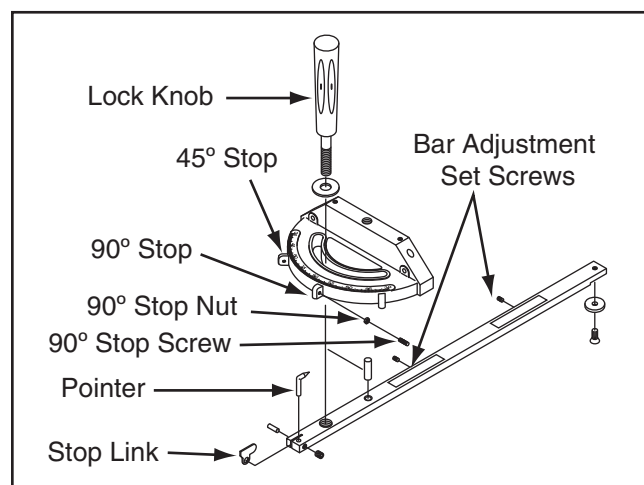

Figure 124. Miter gauge features.
The miter gauge (see **Figure 124**) is equipped with stop screws that allow you to easily adjust the miter gauge from 45° to the left, 90°, and 45° to the right. The stop screws contact a stop link, which moves in or out of the way for adjustments. Also, a pair of set screws can be adjusted so the miter bar is snug in the T-slot.
3. Loosen miter gauge lock knob, raise stop link (see **Figure 124**) all the way up.